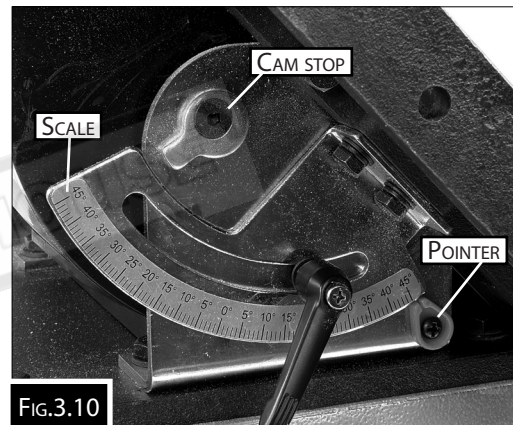

FIG.3.10
6. Located under the work table are two stop cams, one on either side of the table brackets, which can be adjusted to level the table (Fig.3.10). With a 4mm hex wrench, loosen the cam's centre screw to rotate the cams to raise or lower the table setting. When the table to spindle angle is at 90°, tighten the hex screw to lock the stop cams in position.
7. With the table stops set then check the pointer on the table angle scale. The pointer should point to 0°. If the pointer is not on the zero then with a Phillips screwdriver, loosen the screw in the centre of the pointer and align the pointer with the 0° position on the scale, and then re-tighten screw. (Fig.3.10)